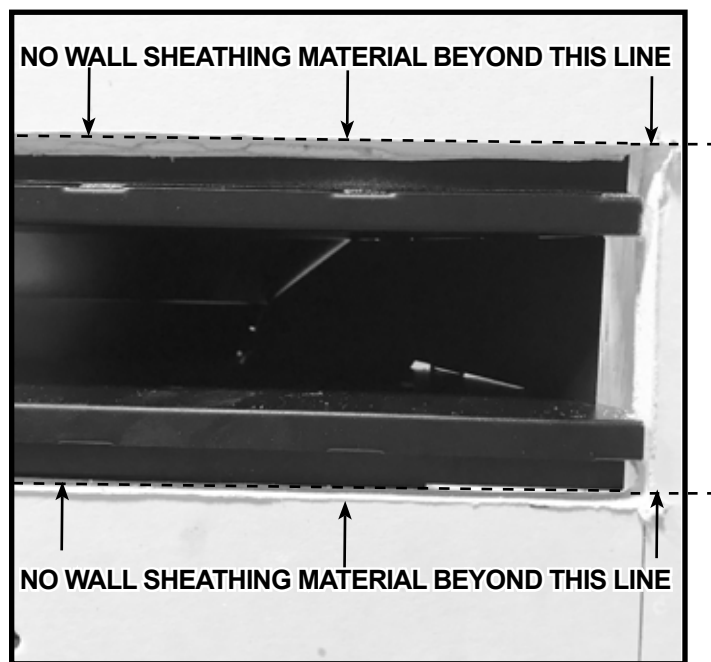

Figure 5.30 Wall Sheathing Installed
1. Apply wall sheathing material, such as drywall up to 1/2 in. (13mm) thick up to the edge of the plenum. See Figure 5.30.